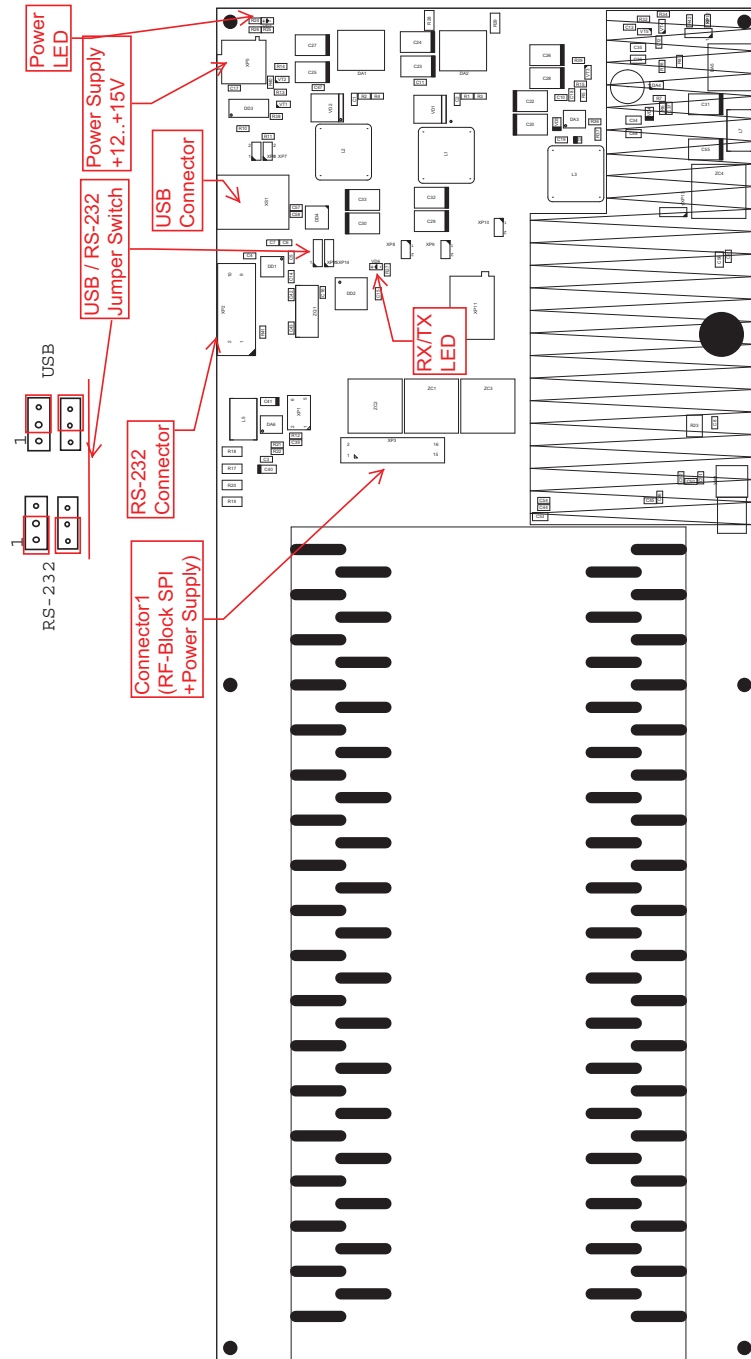

Figure 4: RS2SPI Evaluation Board
DSG-KIT includes DSG Frequency Synthesizer and RS2SPI evaluation board (fig. 4). It is designed for quick start and helps to understand SPI protocol com-
1. Connect DSG module to the RS2SPI board (*Connector 1* located on the top side of the board, see fig. 4) via SPI cable (16-pin, 2-mm pitch, IDC flat cable).
2. Connect RS2SPI board to PC via USB or RS-232 cable (see jumper positions for USB/RS-232 use on fig. 4)